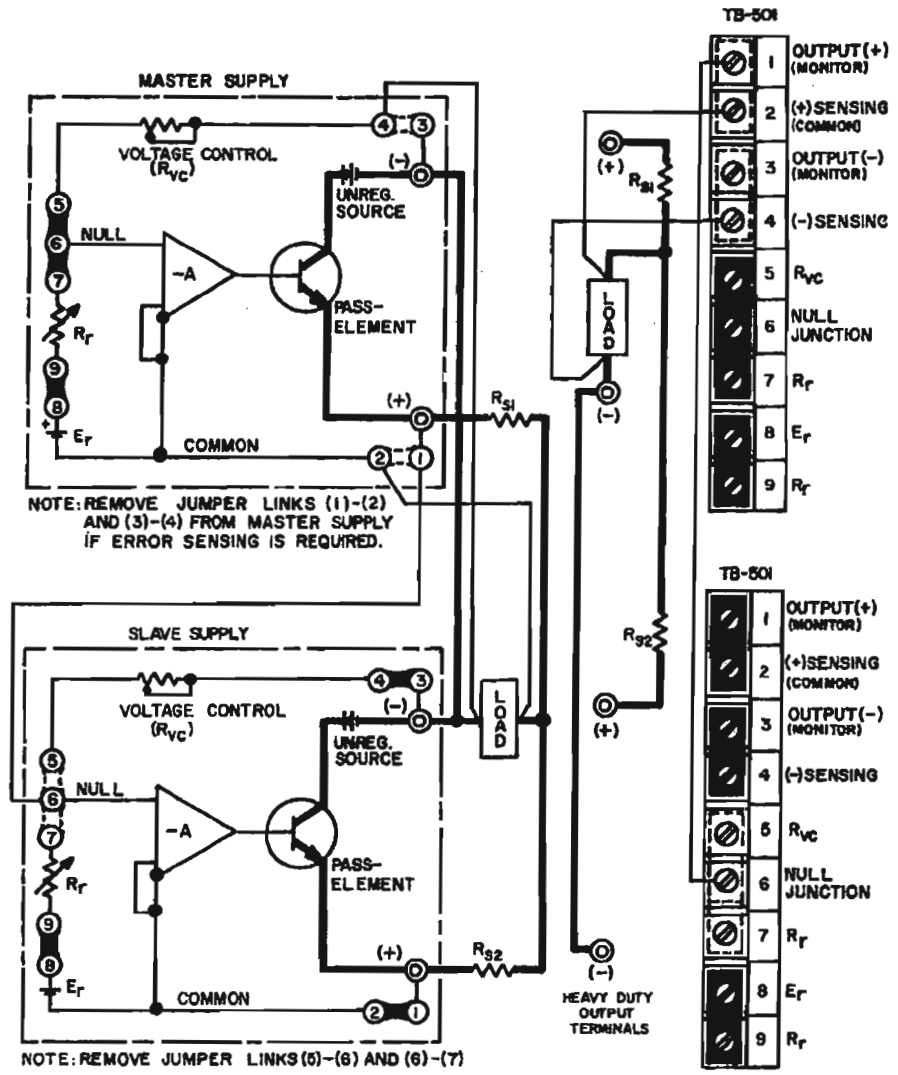

FIG. 3-14 MASTER SLAVE PARALLEL CONNECTION OF KEPKO POWER SUPPLIES
3-45 **MASTER/SLAVE PARALLEL CONNECTION.** Two power supplies are shown in FIG. 3-14, although more can be paralleled, each unit requiring its own sampling resistor. The sampling resistors ( $R_{s1}, R_{s2}$  in FIG. 3-14) are of equal value and are selected such that the voltage drop across them (due to the output current), plus the voltage drop in the load connection leads does never exceed 0.5 volts. If the voltage drop across the load connecting leads alone is at least 0.1 volt, the sensing resistors can be deleted since the leads provide the necessary sample voltage. For equal current sharing, however, the lead *length* and *diameter* should be the same for both power supplies. Output control is exercised from the "Master" supply.
3-46 **PROCEDURE FOR "MASTER/SLAVE" PARALLEL OPERATION (See FIG. 3-14)**
- 2) Make all load and sensing connections as shown in FIG. 3-14. The error sensing connections may be deleted if the minor voltage drop across the load wires (which subtracts from the available compliance voltage) can be tolerated.